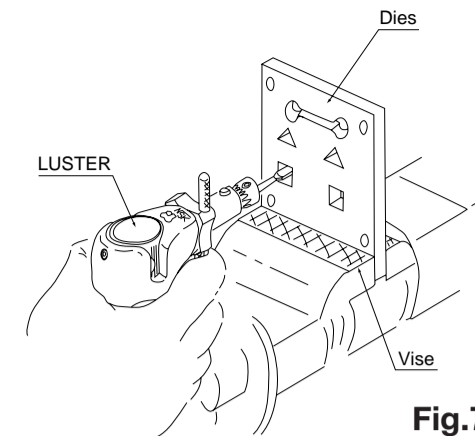

Fig.7
- Finishing the complicated shapes and sizes. (Fig.7)